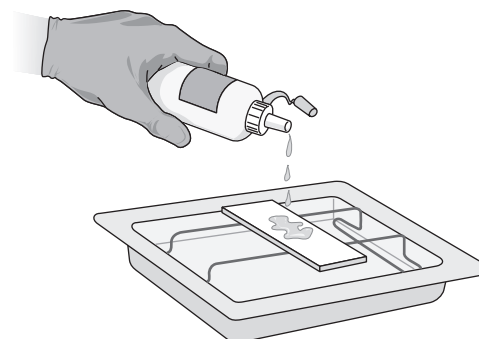

FIG. 1.2. Adding stain to a slide.
3. Add enough *crystal violet* stain to cover the smear, and leave it on for approximately 5 seconds. If you are using *methylene blue*, leave the stain on for 1 minute. Your instructor will tell you which one to use. Figure 1.2 shows the stain being added to the slide on a staining tray.